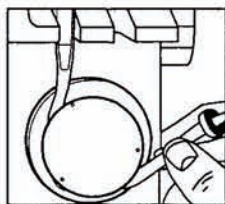
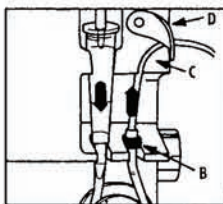

Figure 5A
Figure 5B
11. Inspect lens in OPTIX lock area (B). Clean any contaminants from lens before proceeding to the next step (Figure 5B).
12. Grasp silicone tubing and gently stretch around rollers (See Figure 5A). Insert OPTIX connector into OPTIX lock (B). Thread tubing over tubing guide (C). Secure latch over tubing (D) (See Figure 5B). Do not over-stretch silicone tube.